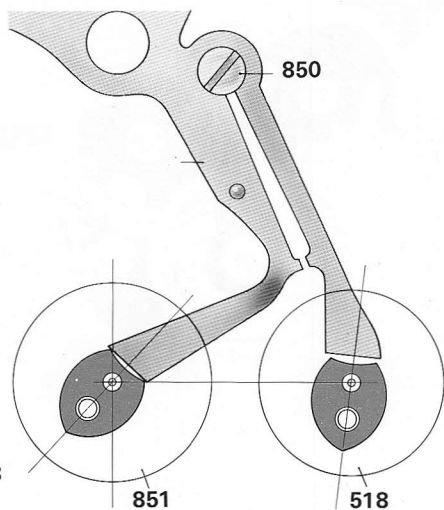

Fig. 18
- the hammer 512, fig.18 (screw 850);